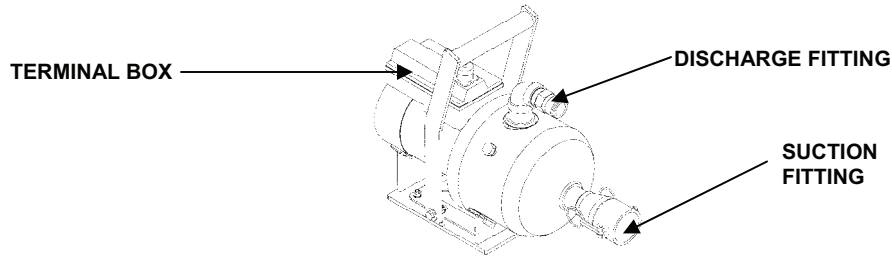

Figure 8. Raw Water Service Pump.
18. The raw water pump is equipped with a 1.5-inch suction fitting. See Figure 8.
3. Attach the other end of the raw water hoses (grey) to the suction fitting of the raw water pump. See Figure 8.